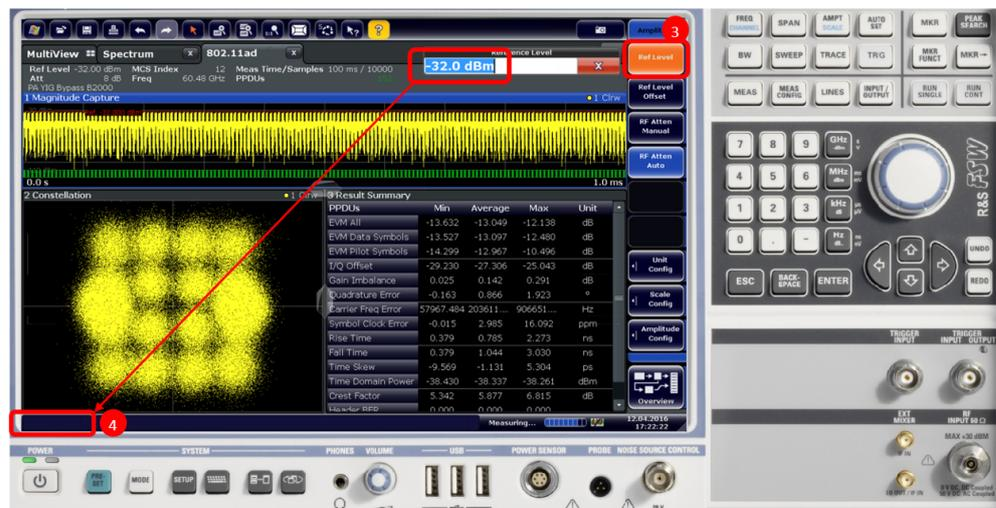

Figure 4-14: IFOVLD disappear
3. Increase the **Ref Level** by 1 dB steps (see Figure 4-14).